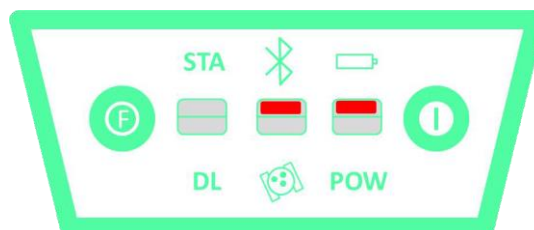

Fig. 2-9 Bluetooth Light
**BT (red)**: Bluetooth indicator light (Fig. 2-9).